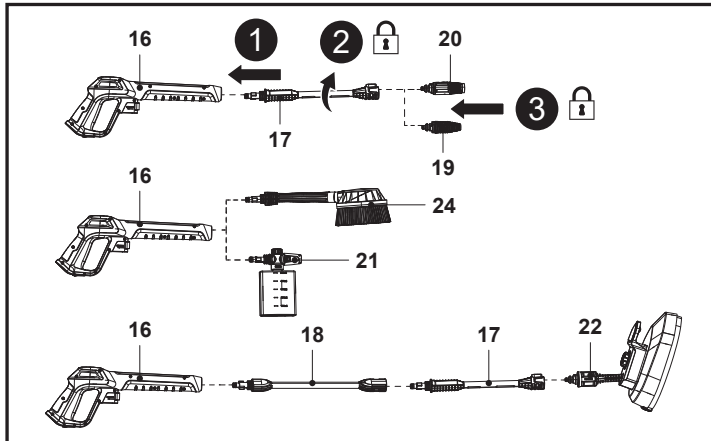

Fig. 5
1. Align and insert the extension lance (17) into the socket of the spray gun (16) (Fig. 5, step 1).
2. Push and turn the extension lance (17) clockwise onto the spray gun (16) until hand tight to lock it in place (Fig. 5, step 2).
3. Align the two nozzle taps with the slots of the extension lance (17), then insert the turbo nozzle (19) or variable nozzle (20) until the end (Fig. 5, step 3).
4. Align the two taps of detergent bottle nozzle (21) or rotary brush (24) with the spray gun (16), then push and turn the detergent bottle nozzle (21) or rotary brush (24) clockwise onto the spray gun (16) until hand tight to lock it in place.
5. You can assemble the patio brush (22) on the extension lance (17), then assemble the combination directly onto the spray gun (16) or through the extension pole (18).